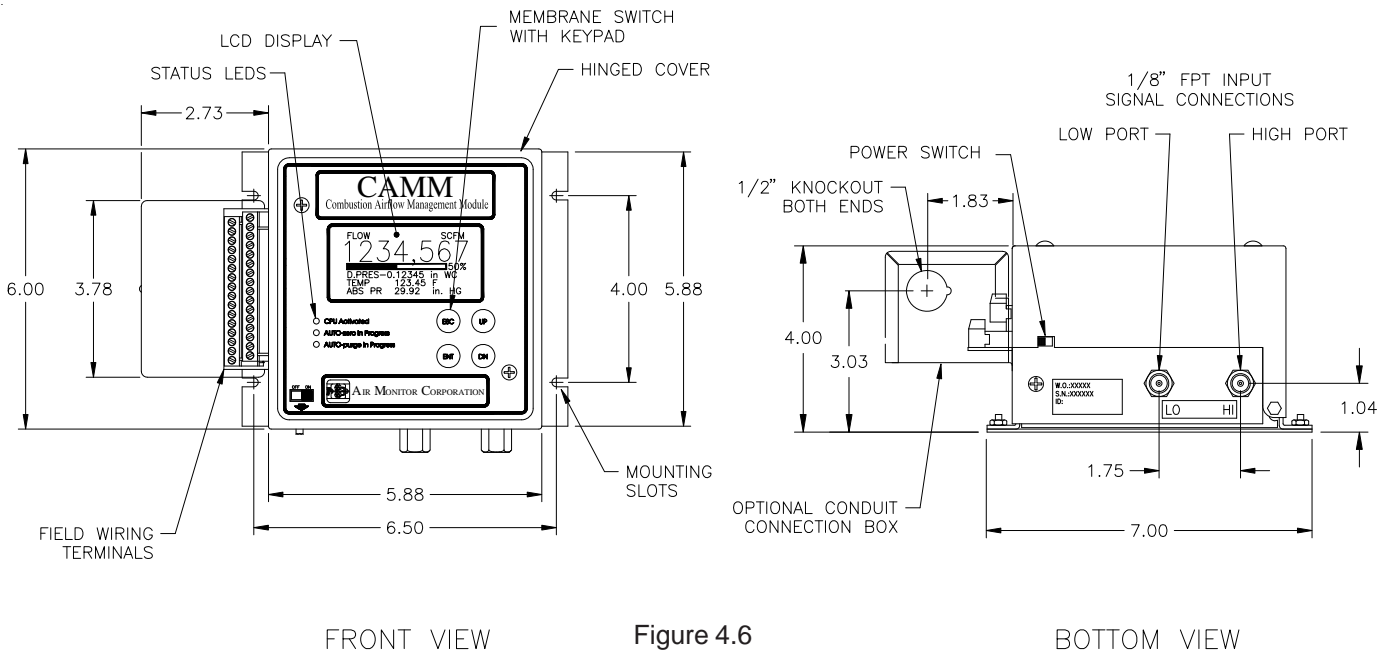

Figure 4.6
**CAUTION:** When connecting or disconnecting any wiring to the CAMM, the unit's power switch (see Figure 4.6) must be in the OFF position.